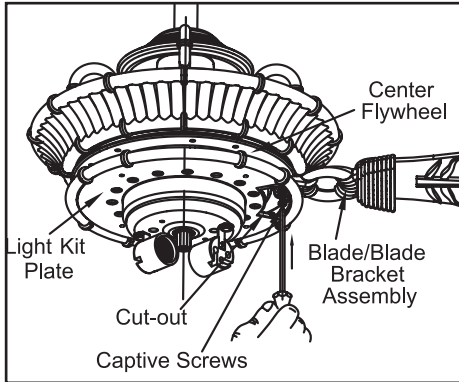

Figure 8b
4. Rotate the center flywheel until the blade bracket screw holes in the center flywheel are visible from the cut-out in the light kit plate of the fan motor (Figure 8b).